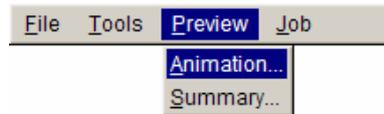

Figure 1.36 Animation menu
1. Select **Preview**→**Animation...** in the menu bar. See Figure 1.36.